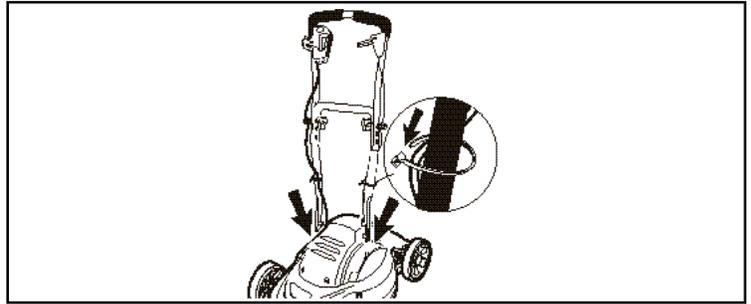

FIGURE 2B
ATTACHING THE HANDLE (FIGURE 2B)
3. Align the ends of the lower handle vertically over the flip bracket installation slots **with the power cord on the same side as the discharge area.** (Figure 2B)